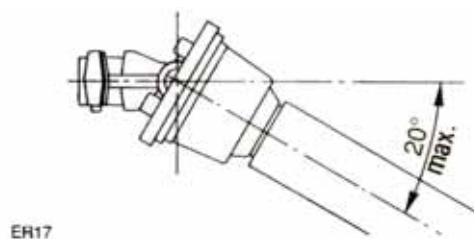

Figure 11
- The machine can plow on a slope with a gradient of 20° at most. If the gradient is higher, the machine may start to vibrate considerably or the power take-off shaft may break (see Fig. 11).